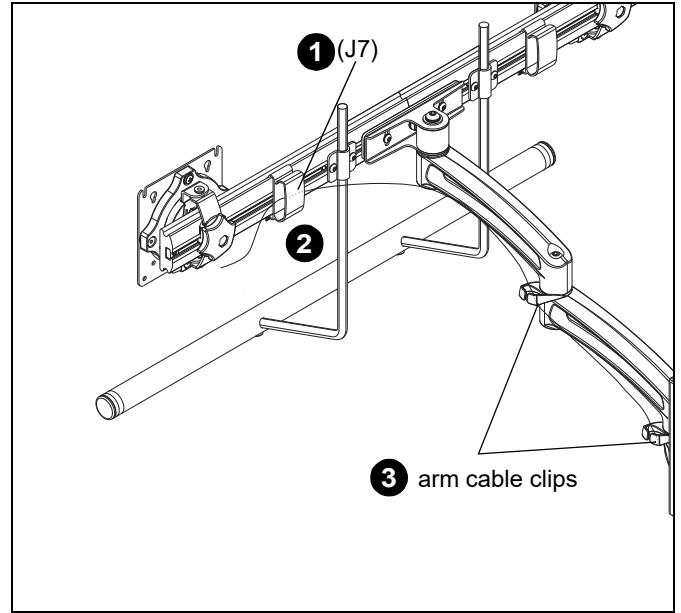

Figure 29
1. Install cable clips (J7) to back of array. (See Figure 29)
2. Route cables through cable clips (J7) as desired. (See Figure 29)